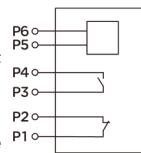

Fig1.
4.4.3 Leakage alarming module (RDM1L-125L, 250L do not have it.) Specification: P5-P6 port for input power-source AC50/60Hz, 230V or 400V. P1-P2, P3-P4 port for capacity is AC230V 5A, see Fig1
2. Circuit breaker with leakage alarming module. when the leakage alarming is happening, the leakage protection module would function after resetting the reset button of Module II. Fig1.